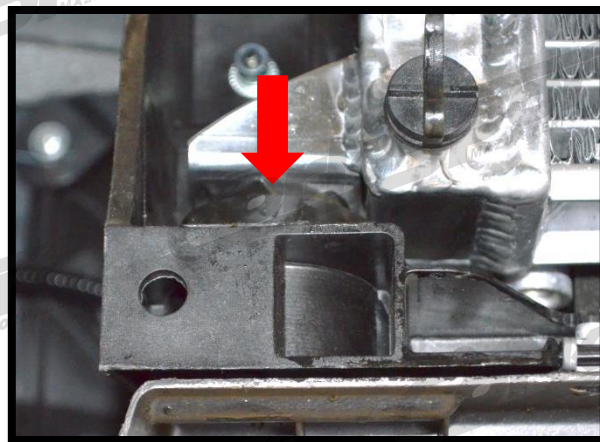

Figure 2e
- f) **Push the assembled radiator/AC forward** until the lower pegs with rubber isolators drop into their holes in the core support (**Figure 2e**).
f) Push the assembled radiator/AC foreword until the lower pegs with rubber isolators drop into their holes in the core support (properly seated rubber isolator shown in Figure 2e).